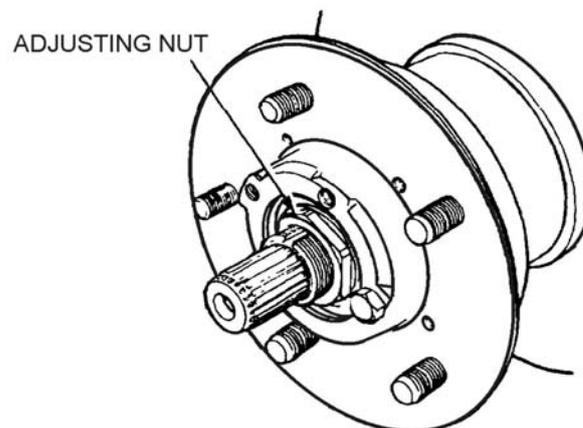

Figure 139 Hub Bearing Adjusting Nut
- e. Install the keyed washer and the adjusting nut (Figure 139).